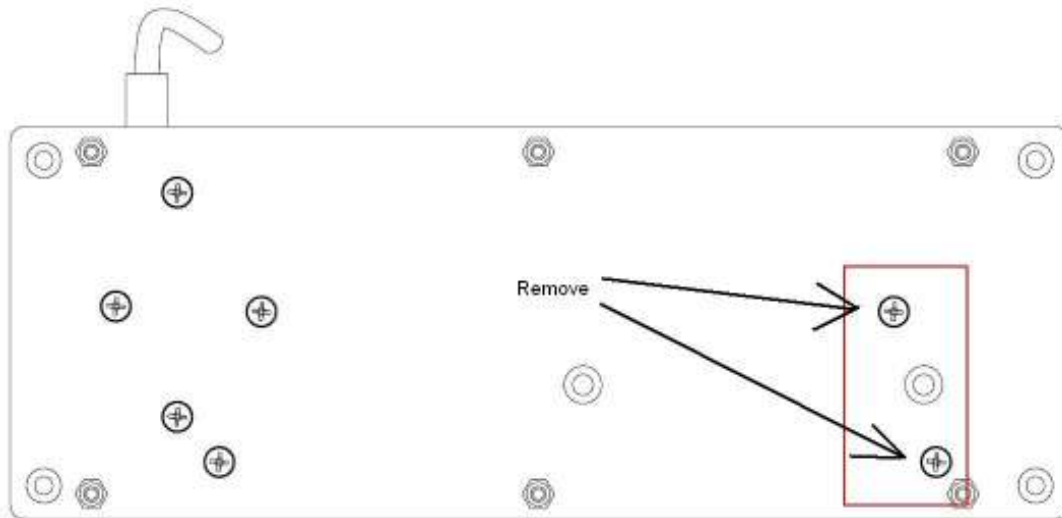

Figure 5.
5. Locate the manifold mounting screws on the back of the sensor module on figure 5.